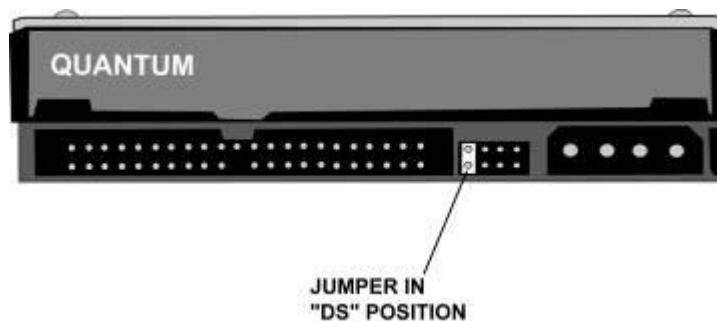

Figure 7, DS Position
- **Quantum** - The jumper must be placed in the “DS” position. The “DS” position is adjacent to the IDE plug, see figure 7.